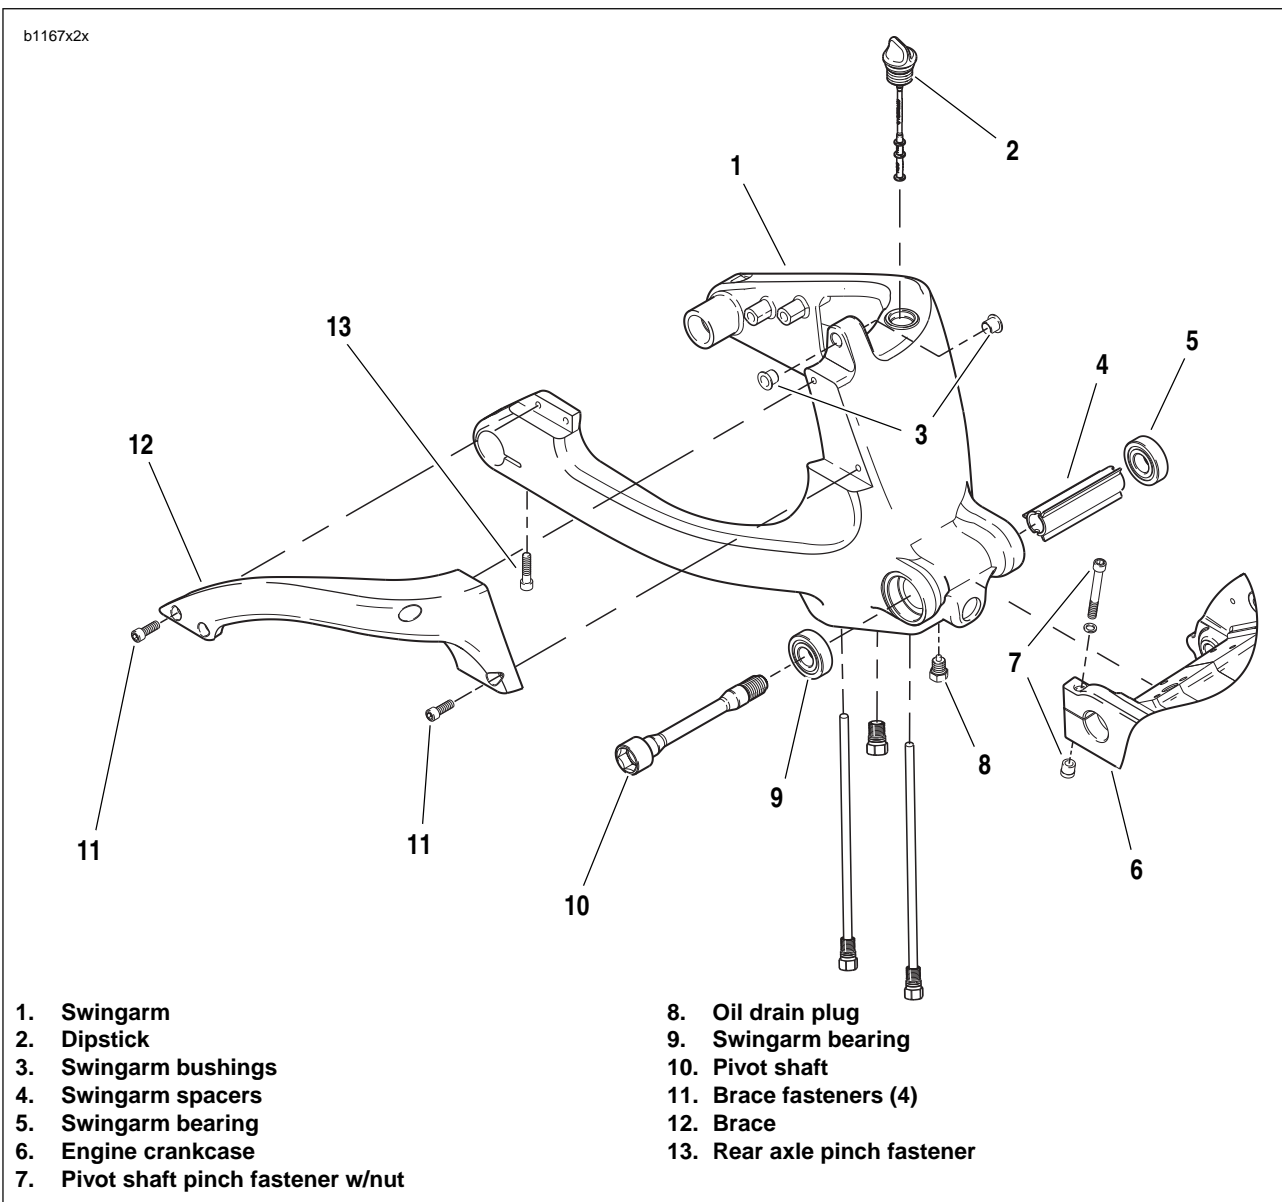
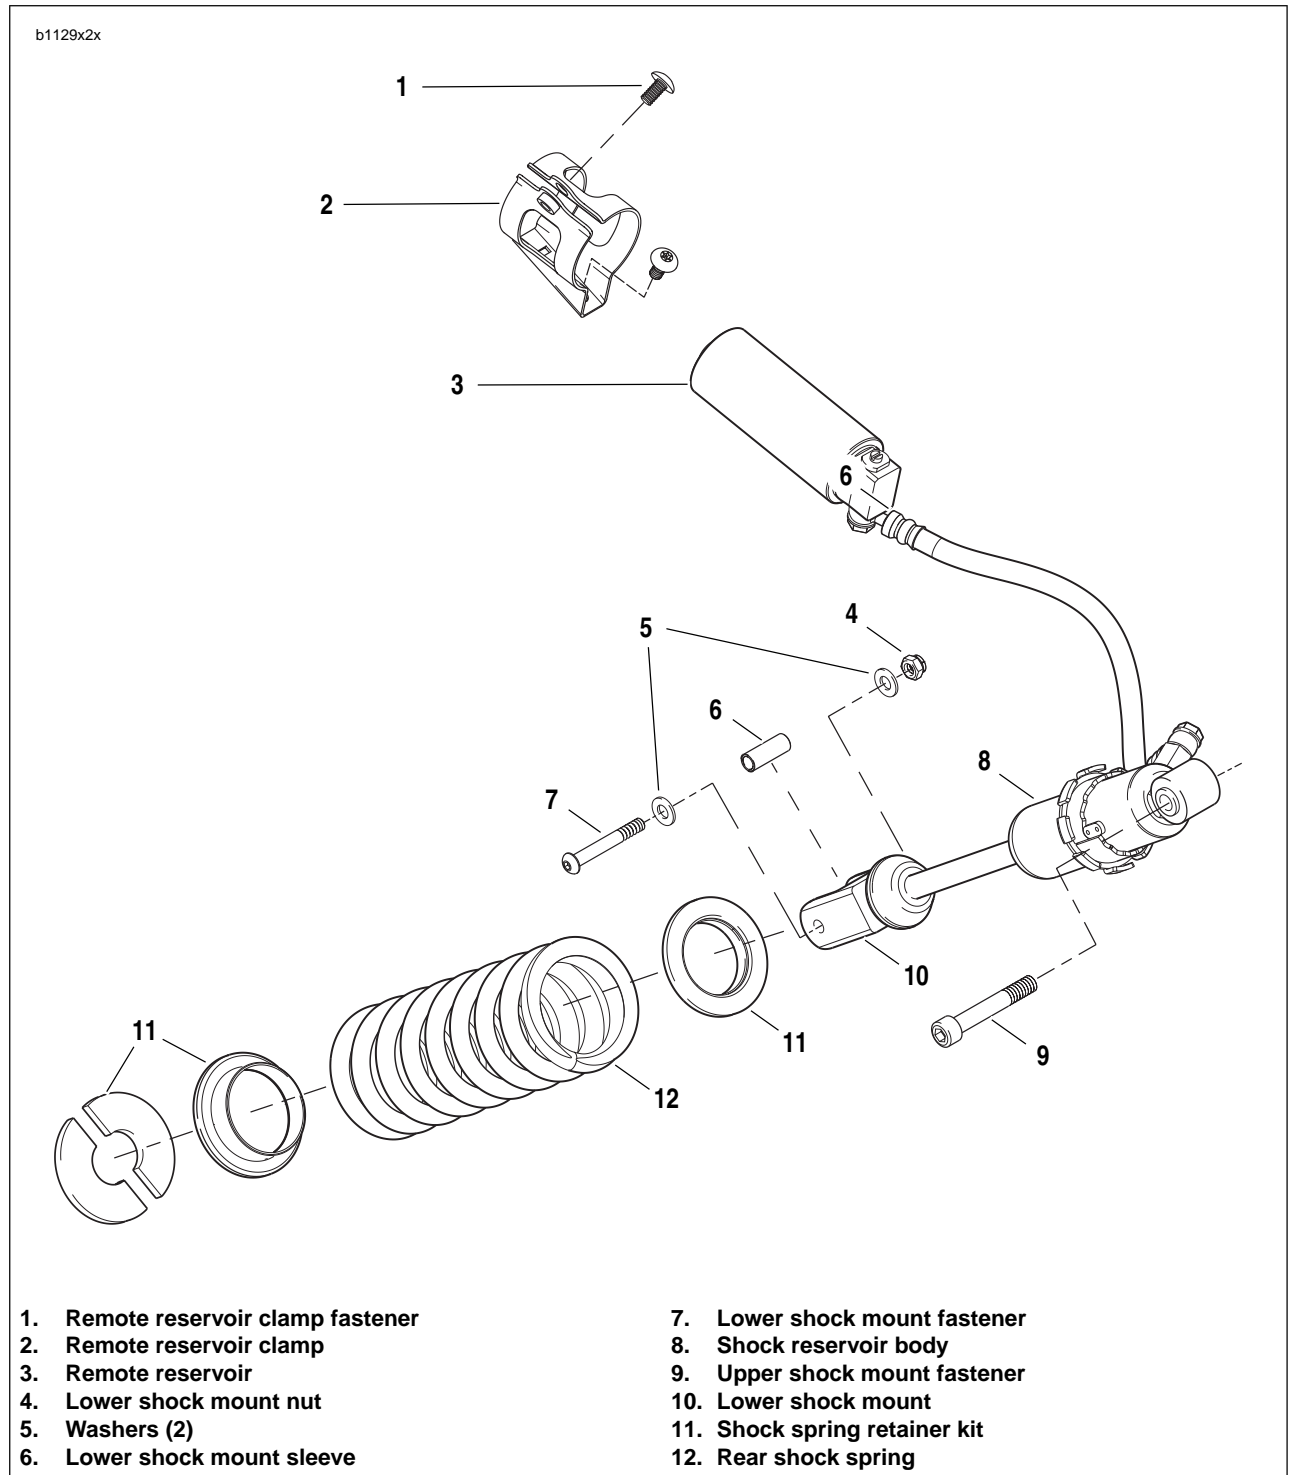

Figure 2-83. Swingarm Assembly
Figure 2-89. Rear Shock Absorber Assembly
3. Loosen rear axle (1) approximately 15 rotations to allow partial tension to be removed from rear drive system.
4. See Figure 2-83. Remove swingarm brace mounting fasteners (11).
5. Remove swingarm brace (12).
3. See Figure 2-83. Remove oil drain plug (8) and drain oil from swingarm. See Draining Oil in 1.6 ENGINE LUBRICATION SYSTEM.
8. See Figure 2-83. Loosen pivot shaft pinch fastener (7).
9. Remove pivot shaft (10) with a special 7/8 in. hex tool located in tool kit.
2. See Figure 2-83. Remove swingarm bearings (5, 9) using slide hammer (SNAP-ON Part No. CJ1275 or equivalent) and 3/4 in. bearing remover and spacer.
3. Remove shock mount bushings (3) and sleeve.
See Figure 2-83. Remove swingarm bearings (5, 9) only if replacement is required. The complete bearing assembly must be replaced as a unit when replacement is necessary. Do not intermix bearing components.
1. See Figure 2-83. Install **new** shock mount bushings (3).
2. Install **new** bearings (5, 9) and spacer (4) with BEARING INSTALLER (Part No. HD44060) by lightly seating spacer.
4. See Figure 2-83. Install drain plug (8). Tighten to 29-31 ft-lbs (39-42 Nm).
1. See Figure 2-83. Align swingarm (1) in pivot of engine crankcase (6).
2. Install pivot shaft (10) with a special 7/8 in. hex tool located in tool kit, ANTI-SEIZE and tighten to 24-26 ft-lbs (32-35 Nm).
3. Tighten pivot shaft pinch fastener (7) to 17-19 ft-lbs (23-26 Nm).
4. See Figure 2-89. Install lower shock absorber mounting fastener (7) and spacer from shock absorber and swingarm and tighten to 15-17 ft-lbs (20.3-23 Nm).
3. See Figure 2-83. Install swingarm brace (12) with swingarm brace mounting fasteners (11) loosely. Do not tighten.
4. Tighten swingarm brace fasteners (11) to 25-27 ft-lbs (34-37 Nm).
6. Tighten rear axle pinch fastener (13) to 40-45 ft-lbs (54-61 Nm).
1. See Figure 2-89. Install rear shock assembly in upper shock mount
2. Install fastener (9) and tighten to 49-51 ft-lbs (66-69 Nm).
3. Install lower shock mount with fasteners (4, 5, 7) and lower shock mount sleeve (6) and tighten to 15-17 ft-lbs (20.3-23 Nm).